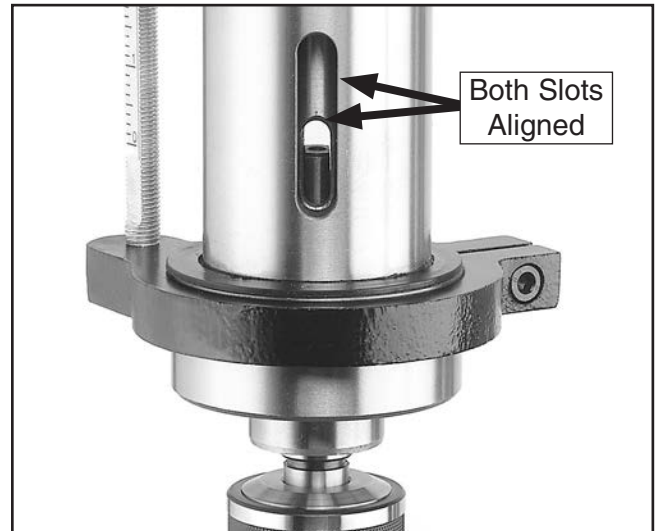

Figure 32. Inner and outer drift-key slots aligned.
6. Rotate the spindle until the inner drift-key slot is aligned with the outer slot, as shown in **Figure 32**. You will see through the spindle when the slot is properly aligned.